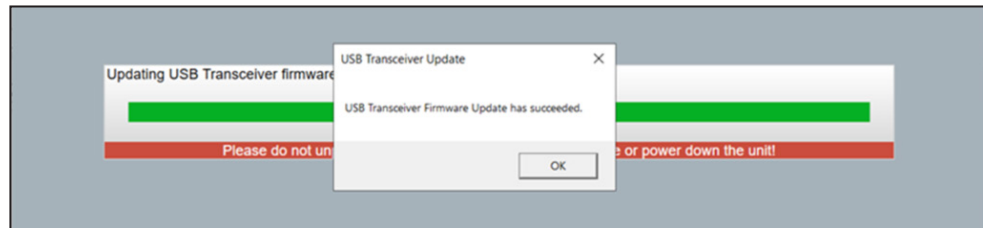

Figure 61. The USB transceiver firmware update success message.
STEP 4. When the update is complete, a dialog box will appear displaying a success message. Click on the **OK** button. See Figure 61.